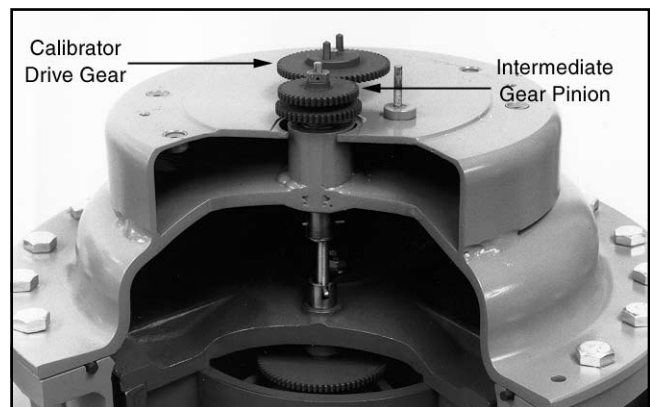

Figure 8 — Model E3-S1, Counter-Clockwise Rotation
1. Reverse rotation by removing and reversing the location of the jackshaft pinion gear and the intermediate gear pinion as noted in Figure 8.